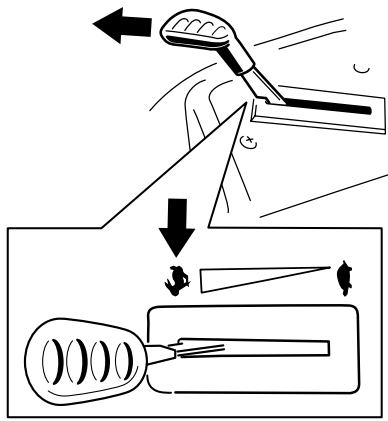

Figure 18
**Note:** Always engage the blades with the throttle in the FAST position (Figure 18).